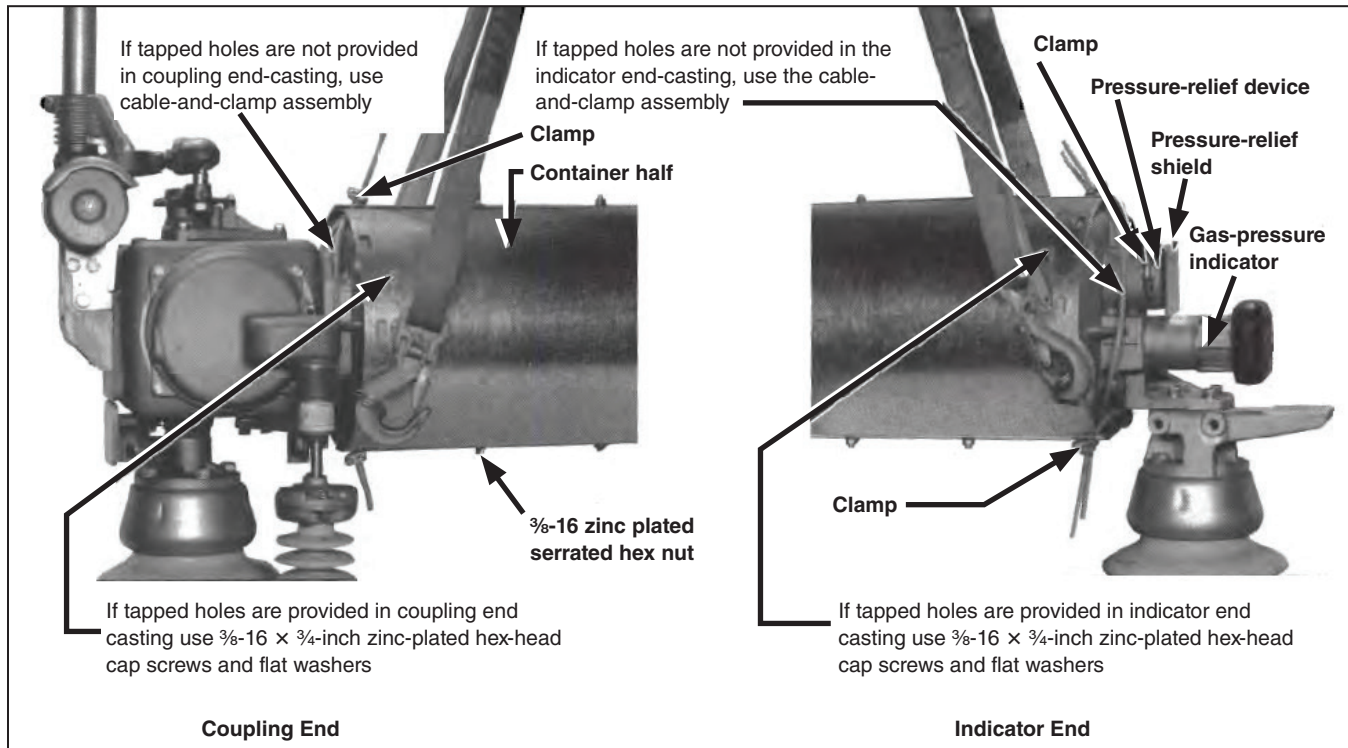

Figure 5. Attaching a spare interrupter container around the interrupter being replaced.
- (e) ***If tapped holes are provided in the indicator end casting and coupling end casting:*** Secure the container-halves to the indicator end casting using four $\frac{3}{8}$ -16 \times $\frac{3}{4}$ -inch zinc-plated hex-head cap screws and flat washers, inserted through the innermost holes at the end of the container-halves. See Figure 5 on page 10 (right). Then, secure the container-halves to the coupling end casting in the same manner. See Figure 5 on page 10 (left). Securely tighten the $\frac{3}{8}$ -16-inch zinc plated serrated hex nuts running the length of the container-halves.
If tapped holes are not provided in the indicator end casting and coupling end casting: Attach the container-halves at the indicator end of the interrupter using one of the cable-and-clamp assemblies furnished. See Figure 5 on page 10 (right). Thread the cables through the outermost hole at the bolted connection of the container-halves, as shown.
- (f) Attach the container-halves at the coupling end of the interrupter in a similar manner using the other cable-and-clamp assembly furnished. See Figure 5 (left). Slide the container-halves back and forth as necessary to allow the cables to be threaded through the holes.
- (g) Pull the cables taut at the indicator end of the interrupter and attach one of the clamps furnished. See Figure 5 (right). Securely tighten the clamp nuts.
- (h) Pull the cables taut at the coupling end of the interrupter and attach the other clamp furnished. See Figure 5 (left). Securely tighten the clamp nuts.